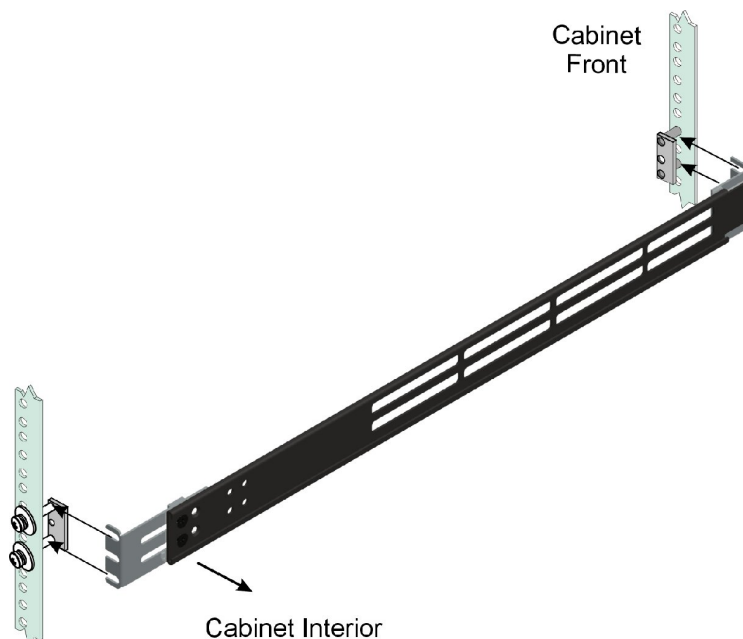

Figure 2.3. Bracket Installation
5. Attach each bracket assembly to the rack-mounting standards as shown in Figure 2-3. If the appliance mounts through the front of the cabinet, ensure the front bracket portion of the assembly faces the cabinet front.